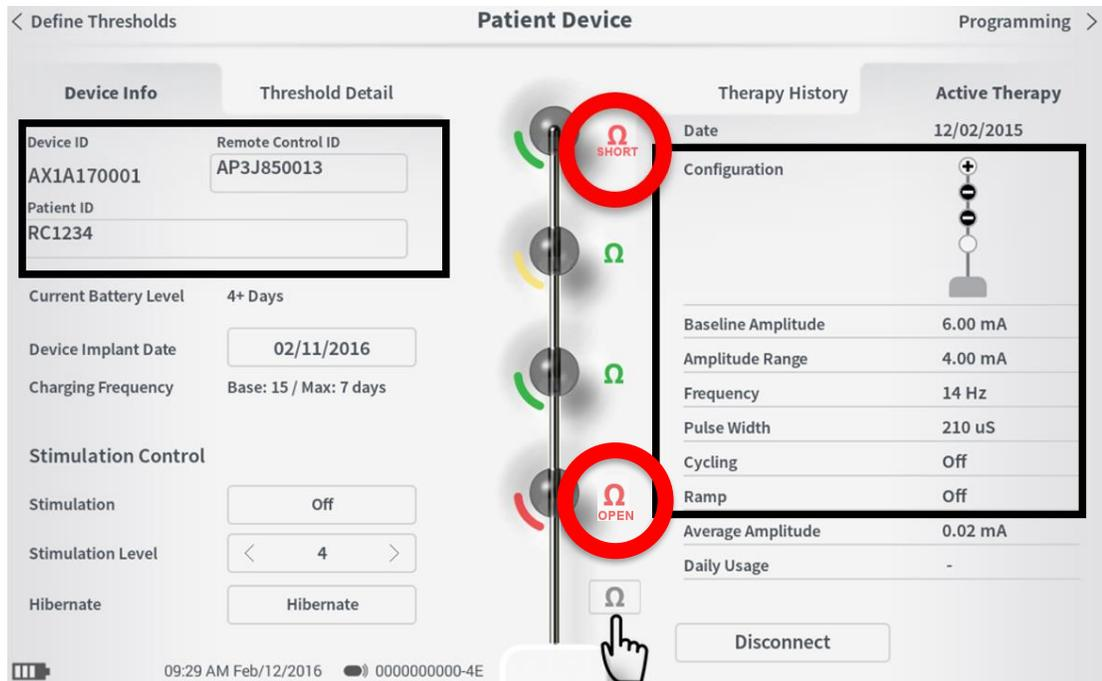

Figure 3: Patient Device information on the Clinician Programmer
- 4.1.3.3 Use the Axonics Clinician Programmer to communicate with the patient's neurostimulator and perform an impedance measurement. Press the "Ω" button on the Patient Device screen of the Clinician Programmer (indicated by an index finger in Figure 3) to determine the integrity of the patient's neurostimulator. For detailed instructions on the use of the Axonics' Clinician Programmer, refer to Axonics' Clinician Programmer Manual.
- If open or short circuits are detected, the "Ω" symbol next to that electrode will be red (highlighted with red circles in Figure 3), indicating that the integrity of the patient's SNM system is compromised. This patient is **NOT** eligible for MRI full body scan.
- 4.1.3.4 Complete the "Before MRI scanning" column of **Table 3** using the information on the Patient Device screen. Record "Device ID", "Remote Control ID", "Patient ID", "Configuration", and other stimulation parameters and settings (highlighted in two black rectangles in Figure 3).